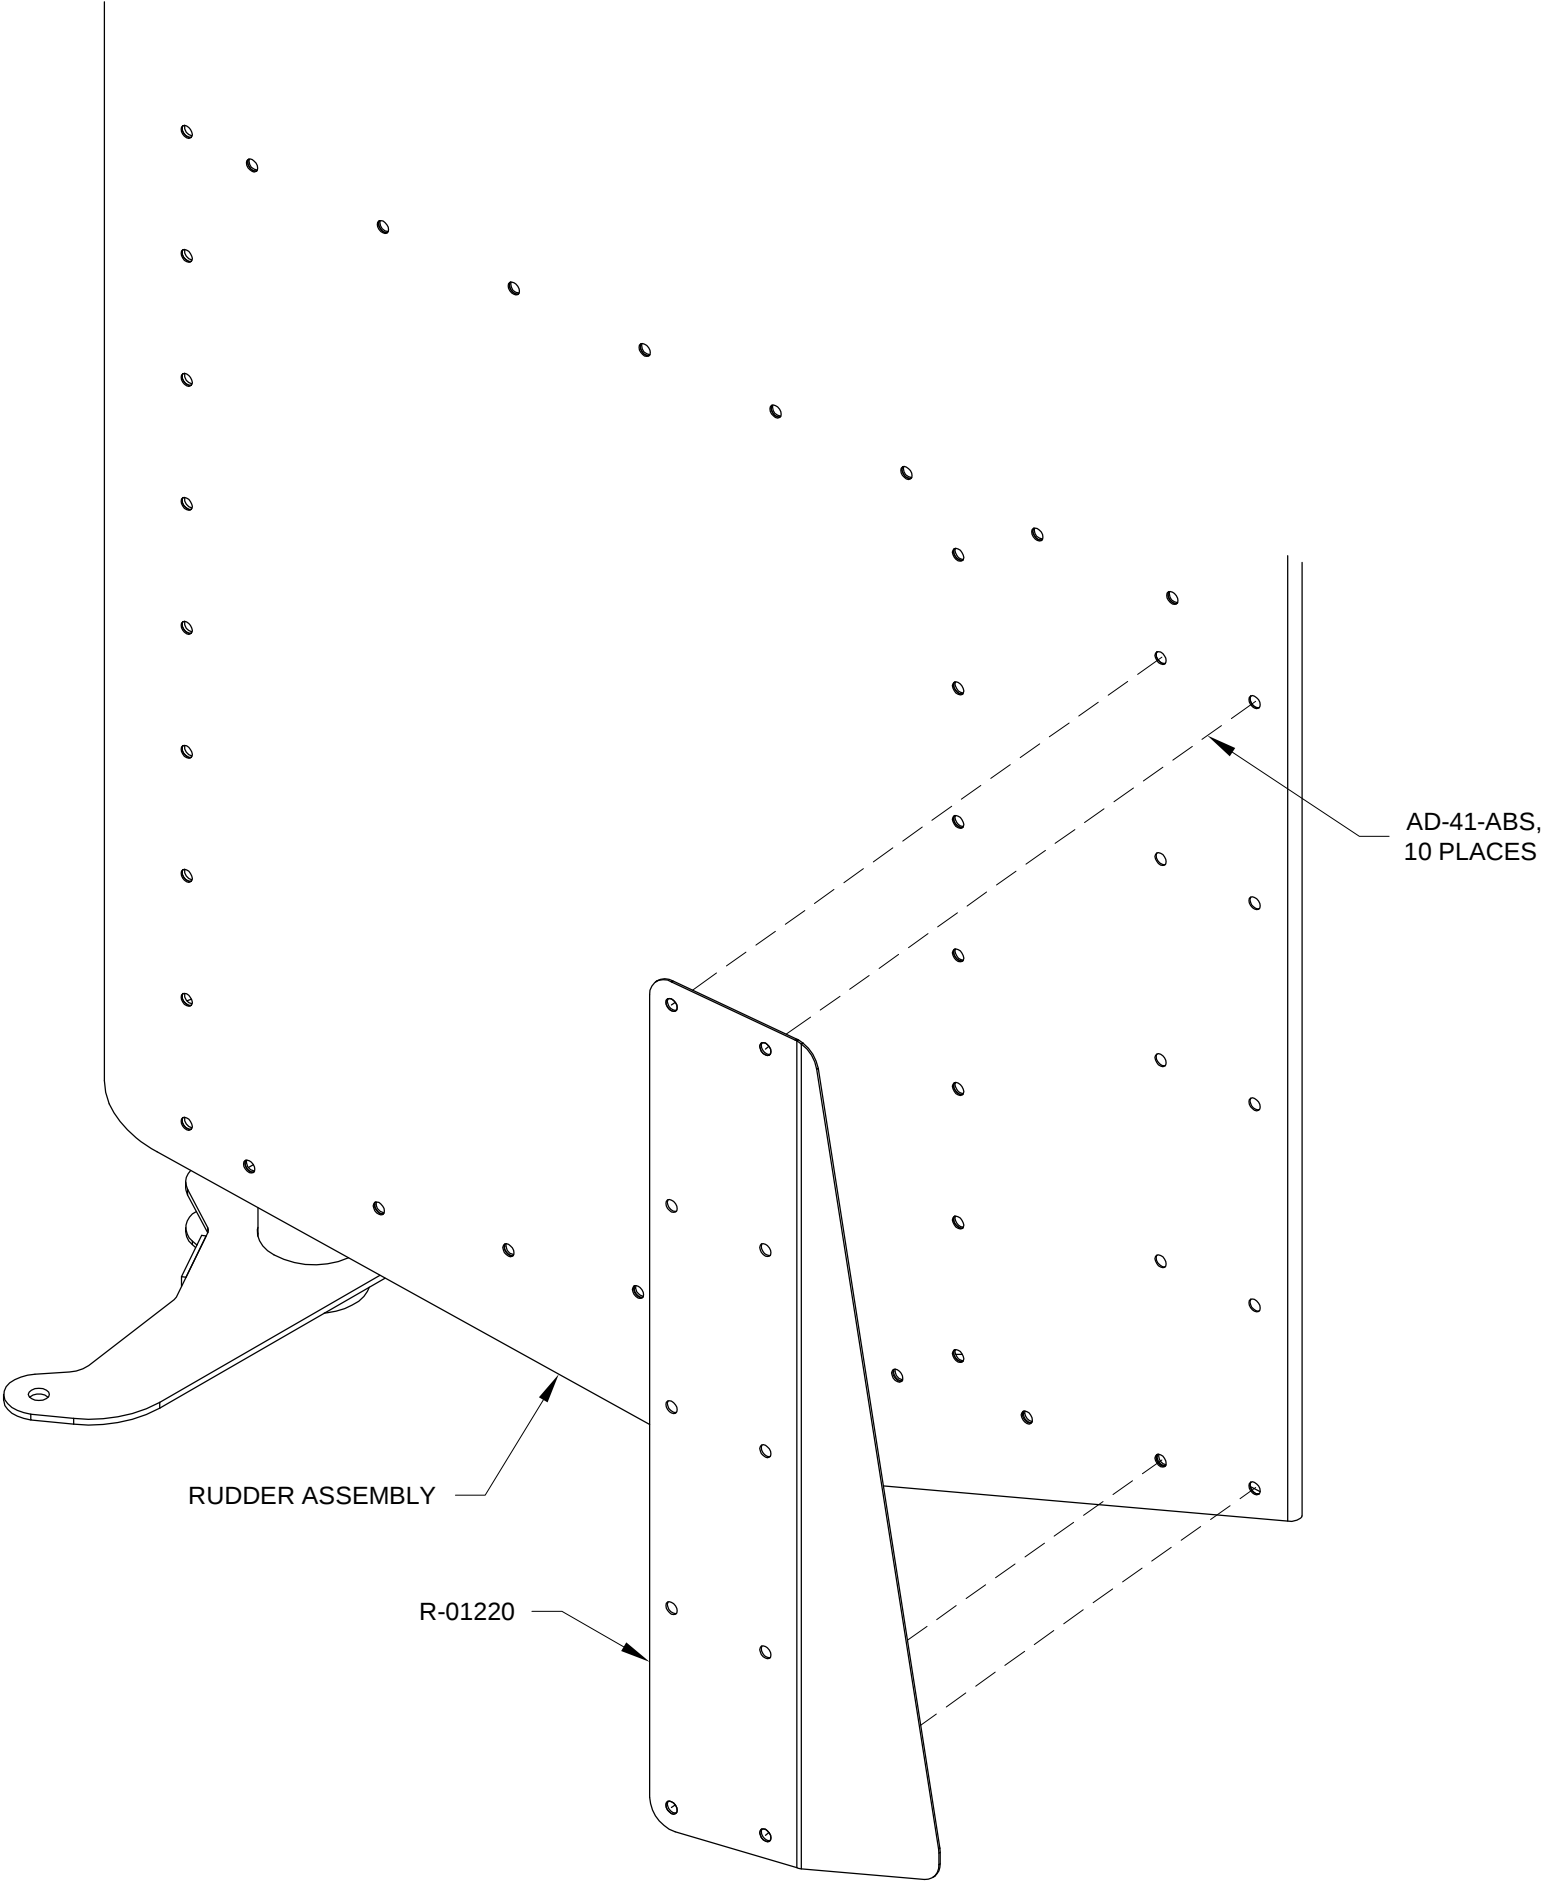

FIGURE 1: INSTALLING THE TRIM TAB
Step 1: Cleco then rivet the R-01220 Trim Tab to the Rudder Assembly using the rivets called out in Figure 1.